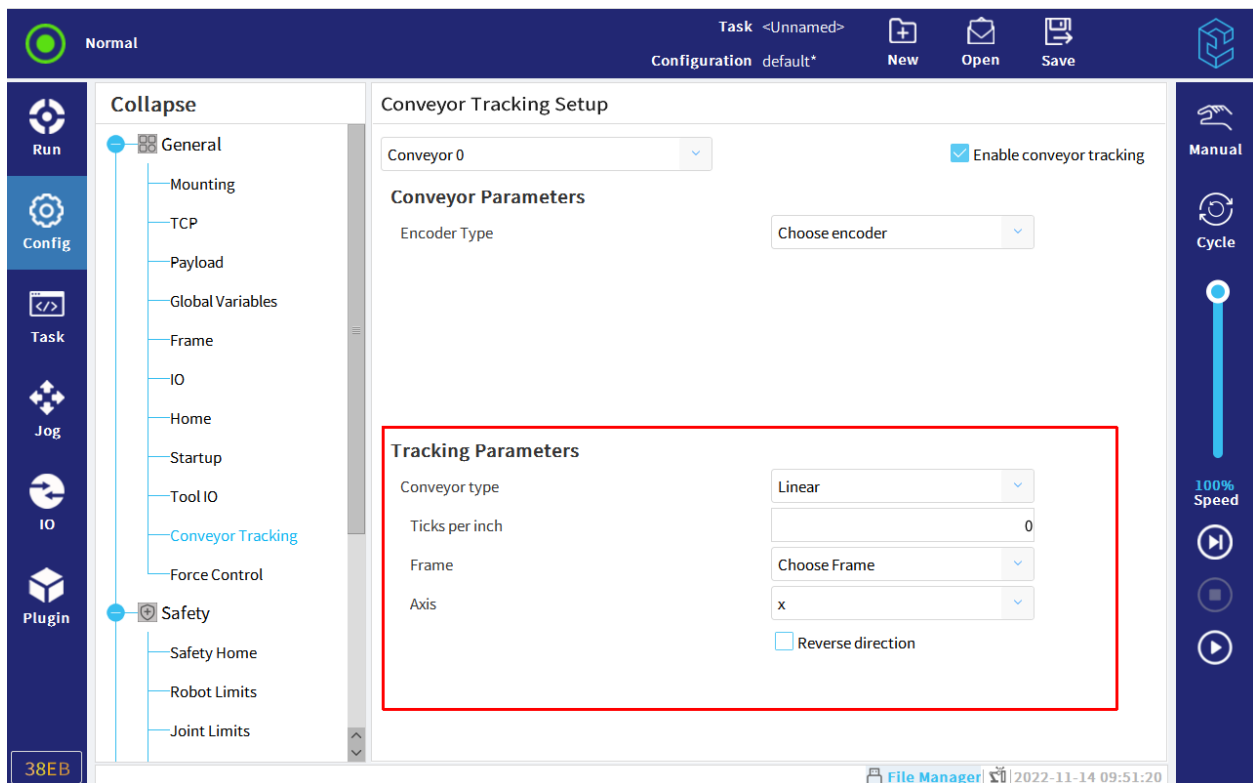

Figure 11-20 Set tracking parameters
5. Set "Tracking Parameters" and select "Conveyor type" as "Linear" or "Circular", as shown in Figure 11-20.